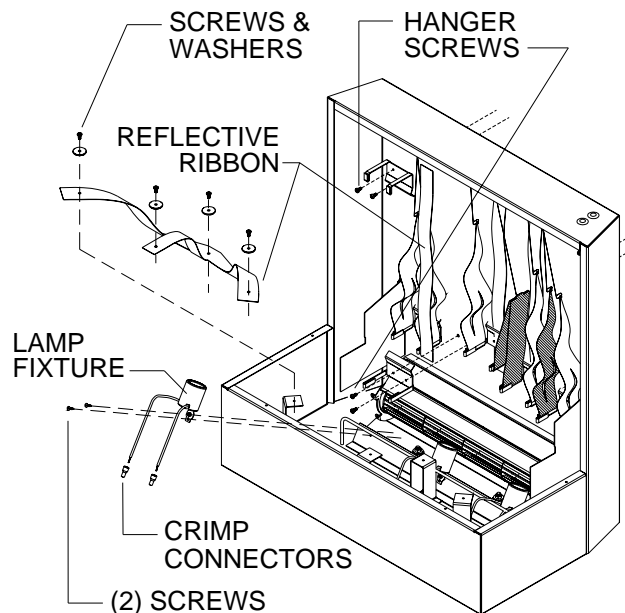

Figure 39 - Replacing Fixtures
2. Locate any of 3 defective lamp fixtures and trace the wiring to the crimp connections. See **Figure 39**.
4. Remove the 2 Phillips screws at the base of the defective fixture (see **Figure 39**).
2. Locate defective ribbons; there are 3 strips mounted on the rear cabinet and 3 mounted in the base. See **Figure 39**, page 17.